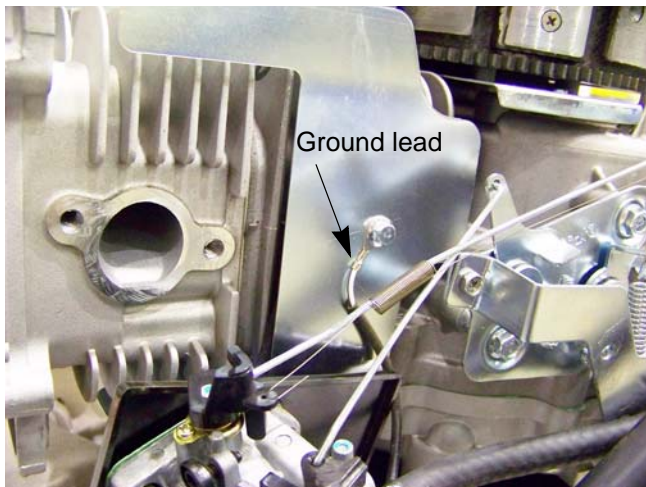

Figure 9.2
3. Disconnect the afterfire solenoid's ground lead using an 8 mm wrench. See Figure 9.2.